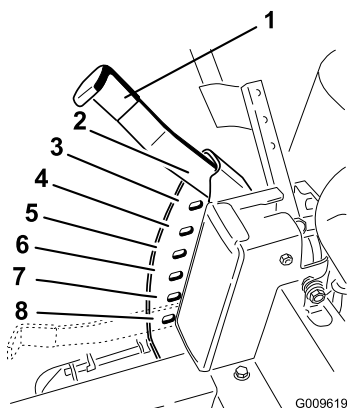

Figure 18
1. Raise the height-of-cut lever to the transport position, cutting height position **G** (also the 4-1/2 inch [115 mm]) (Figure 18).